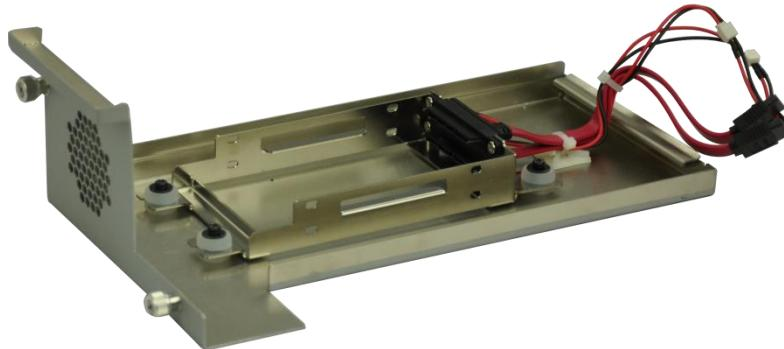

Figure 3-2: Remove the Cover from TANK-870-Q170 Series
- Step 2:** Unplug the SATA signal and power cables connected to the TANK-870-Q170 Series, and then put the cover on a flat surface (**Figure 3-2**).
Step 2: Unplug the SATA signal and power cables connected to the TANK-870-Q170 Series, and then place the cover on a flat surface (**Figure 3-2**).